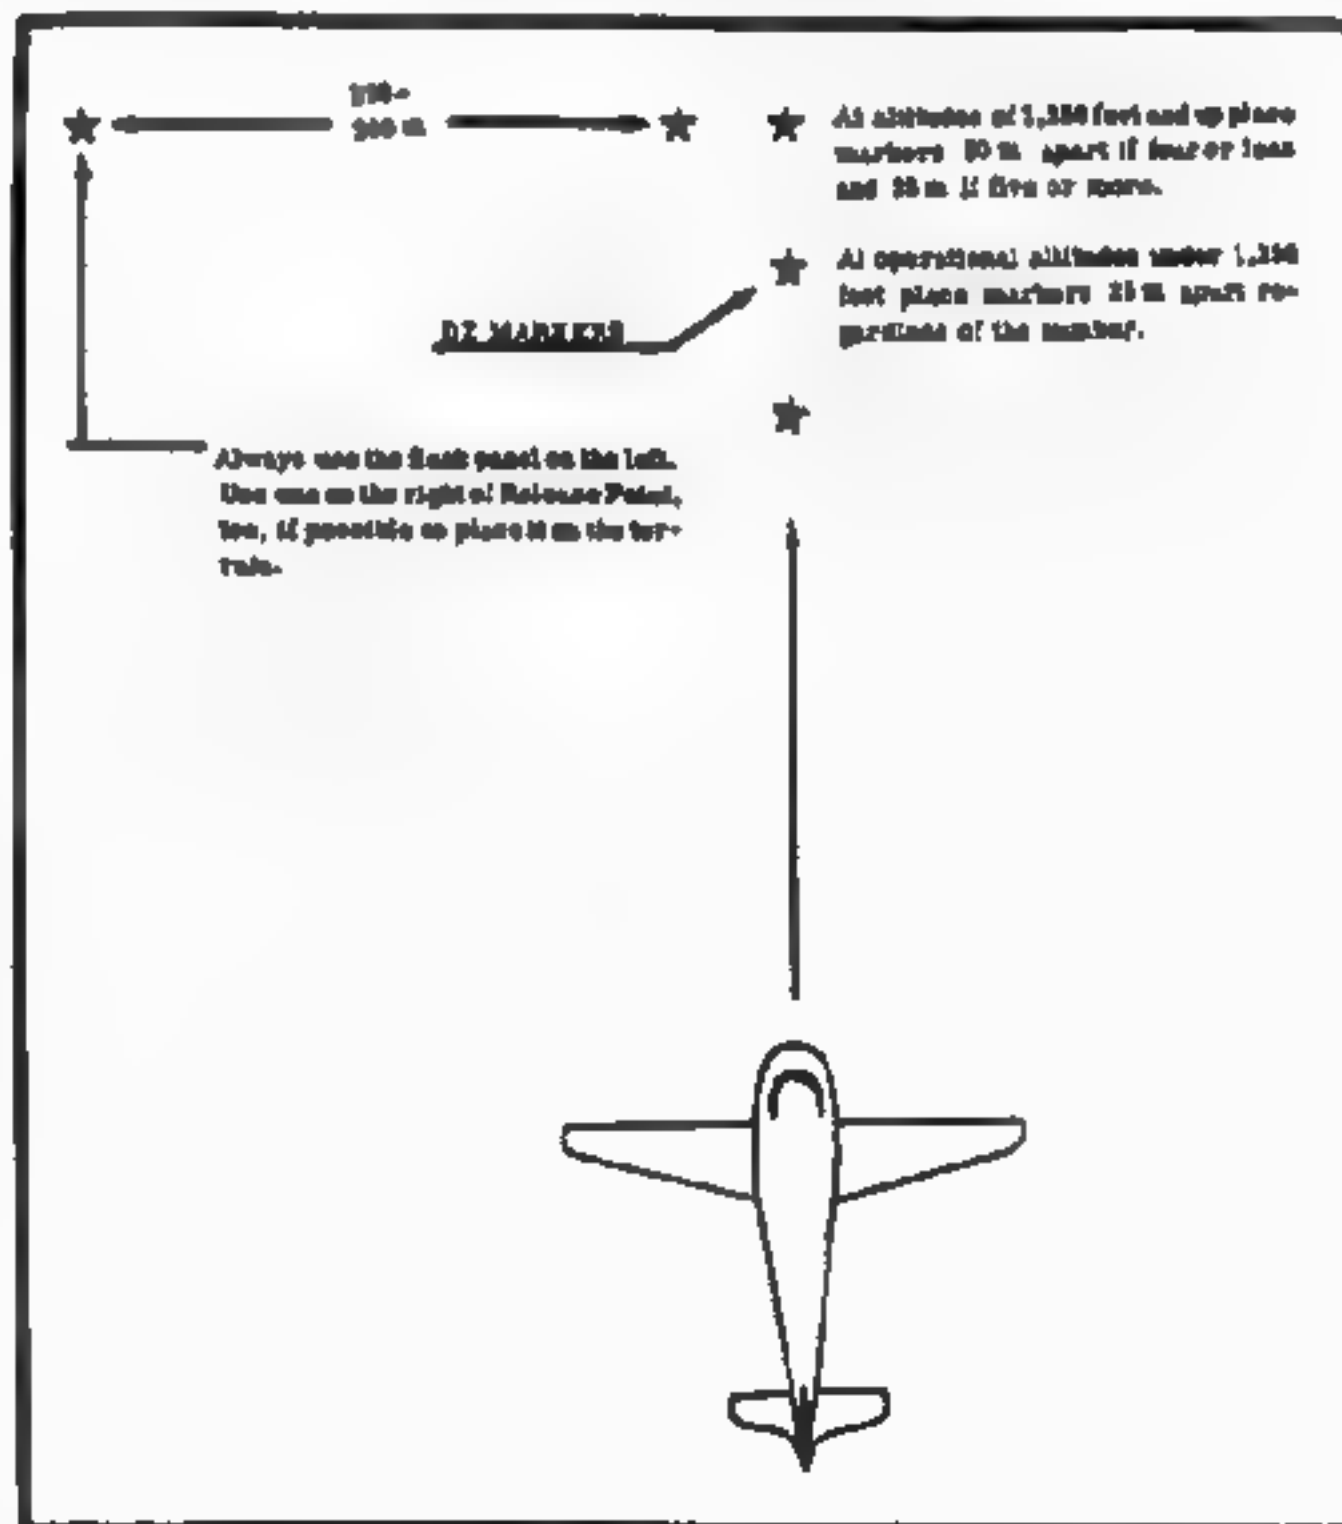

Figure 7. Methods of release point marking
1. Training jumps conducted at an absolute altitude of 1,250 feet (381 meters) require the use of a flank panel or light placed 200 meters to the left of the release point markings. The configuration of present cargo and troop carrying aircraft prevents the pilot from seeing the markings after approaching within approximately one (1) mile of the DZ while flying at 1,250 feet (381 meters) absolute altitude. From this point on, the pilot must depend on flying the proper track in order to pass over the release point. The flank marker serves to indicate when the aircraft is over the release point and the exact moment the drop should be executed. Operational drops executed at 600 feet (183 meters) absolute altitude do not require the flank panel because the pilot does not lose sight of the markings as he approaches the DZ. (See Figure 7)